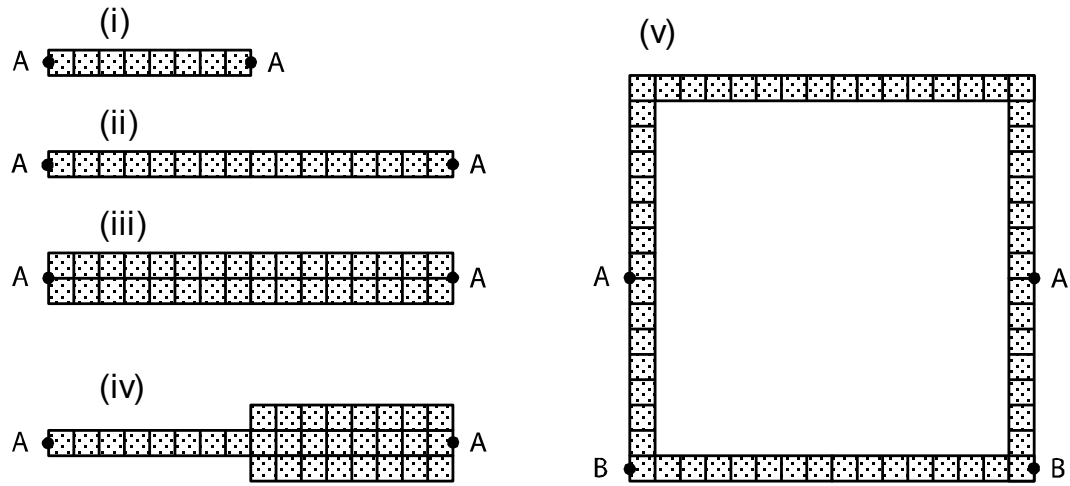

Figure 2: Geometries of graphite resistors to be constructed.
1. Assume the resistance of the geometry in Figure 2 (i) between A-A is R . Predict how the resistance of the geometries between A-A and B-B in (ii) – (v) relates to R and enter your predictions into Table 2. Think about series and parallel combinations of resistors and how the equivalent resistance is affected. Note, the predictions should be whole number multiples or fractions of R .
2. Using the graphite sticks, carefully draw on a sheet of graph paper (with 1 cm squares) as accurately as possible each of the geometries in Figure 2 and measure the resistance between A-A and B-B using an ohmmeter. Enter the measured resistances into Table 2.